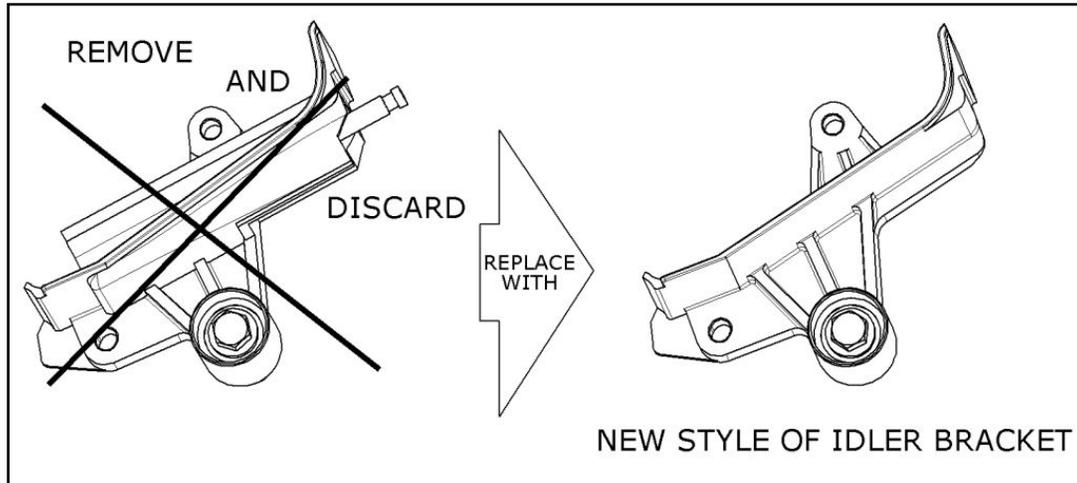

Figure 2: Replace the New Style Idler Bracket Assembly
6. Install the new style idler bracket (Fig. 2, non-hydraulic damper) on the engine and retighten the two M6 bolts to 10 Nm.